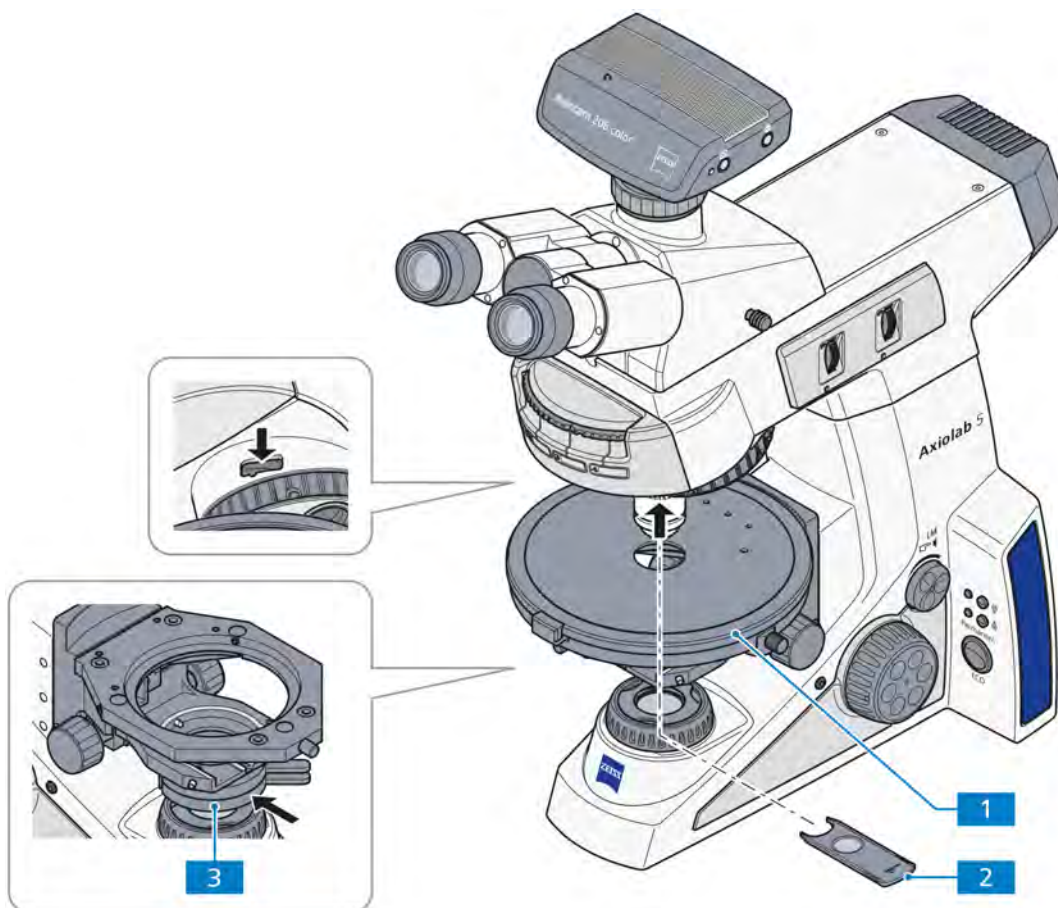

Fig. 4-7 Components for transmitted light polarization
(3) Configuring the microscope
- Configure the microscope as for transmitted light brightfield microscopy using the KÖHLER method (see section 4.2.1 (3)).
- Center the Pol rotary stage (Fig. 4-7/1) (see section 3.1.7.5) and objectives (see section 3.1.7.6).
- Swing the polarizer (Fig. 4-7/3) into the beam path and position it to 0° if you are using a rotatable polarizer.
- Insert the analyzer slider (Fig. 4-7/2) into the slot for compensators (if the tube does not already have an analyzer). The field of view will appear dark due to the crossed polarizers. With screw-on analyzers in the intermediate plate for tubes, care must be taken to ensure that they are aligned with polarizer D (i.e. crossed position).
(2) Instrumentation
- Pol rotary stage (Fig. 4-7/1)
- Adjust the microscope as described in section 4.2.1 (3) for transmitted light brightfield microscopy. Make sure the inter-pupillary distance is adjusted correctly on the binocular tube (see section 4.1.1).
- Center the Pol rotary stage (Fig. 4-7/1) and objectives (see sections 3.1.7.5 and 3.1.7.6).
- Swivel the polarizer (Fig. 4-7/3) into the beam path and, if it is rotatable, position it at 0° .
- Insert the analyzer slider (Fig. 4-7/2) into the slot for compensators or in the intermediate plate (if tube does not already have an analyzer). The field of view will appear dark due to the crossed polarizers. If not, align the analyzer in the tube or the intermediate plate.